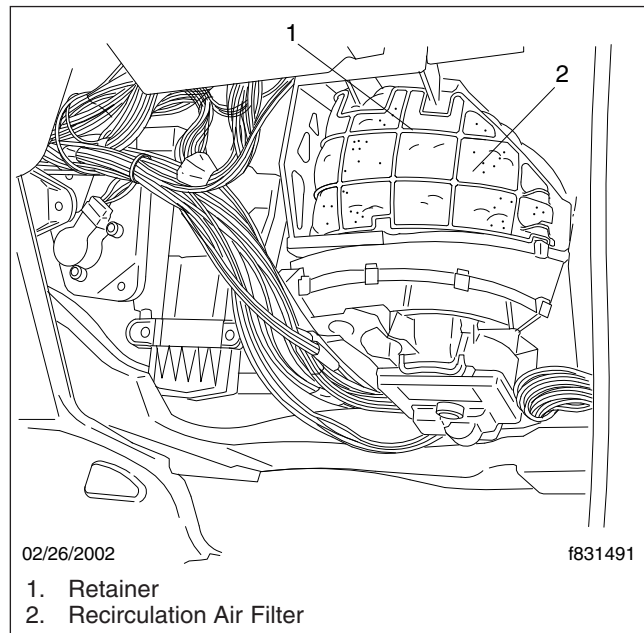

Fig. 6, Cab Recirculation Air Filter, Blend Air
3. Remove the retainer that holds the recirculation air filter in place. See **Fig. 6**.